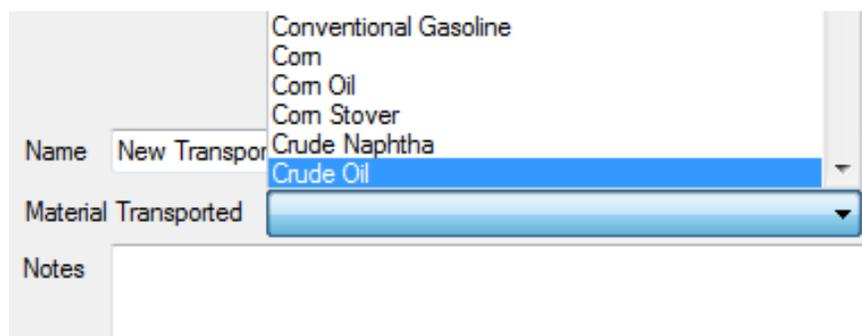

Figure 52: Selecting the Material Transported
**Select the material transported:** When building a new transportation process, the first thing to do is to select the material transported. See Figure 52. The reason the material transported needs to be specified is that the energy intensity for most of the modes (except for Rail) depend on it.